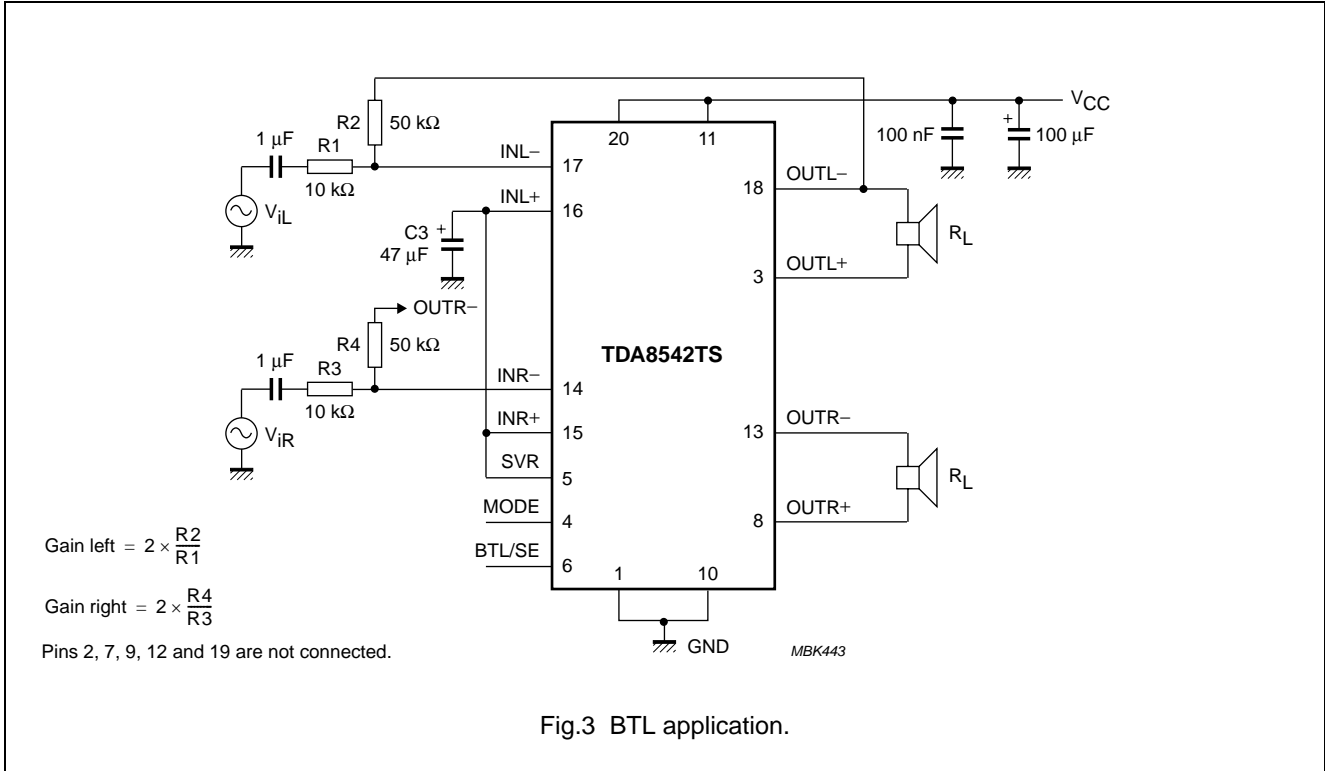

Fig.3 BTL application.
$V_{CC} = 5\text{ V}$ ;  $T_{amb} = 25\text{ °C}$ ;  $R_L = 8\ \Omega$ ;  $V_{MODE} = 0\text{ V}$ ; measured in test circuit Fig.3; unless otherwise specified.
$V_{CC} = 5\text{ V}$ ;  $T_{amb} = 25\text{ °C}$ ;  $R_L = 8\ \Omega$ ;  $f = 1\text{ kHz}$ ;  $V_{MODE} = 0\text{ V}$ ; measured in test circuit Fig.3; unless otherwise specified.
- Gain of the amplifier is  $2 \times \frac{R_2}{R_1}$  in test circuit of Fig.3.
The BTL application diagram is illustrated in Fig.3.